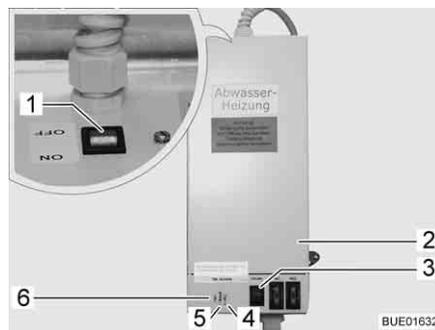

Fig. 153 Transformer with control unit
The 230 V AC/12 V DC transformer (Fig. 153,2) is installed in the wardrobe or in the storage area beneath the seating group, depending on the model.
- Indicator lamp (Fig. 153,5) lights up in green: Regulation in operation
- Indicator lamps (Fig. 153,4 and 6) light up in red: Waste water pipes are warmed
A test button (Fig. 153,3) is integrated in the housing with which the control unit can be operated for a short time. By pressing the test button, the function of the warming unit can be tested, even if the ambient temperature is above 5 °C.
- Turn switch (Fig. 153,1) on the transformer (Fig. 153,2) to "ON".
- Turn switch (Fig. 153,1) on the transformer (Fig. 153,2) to "OFF".